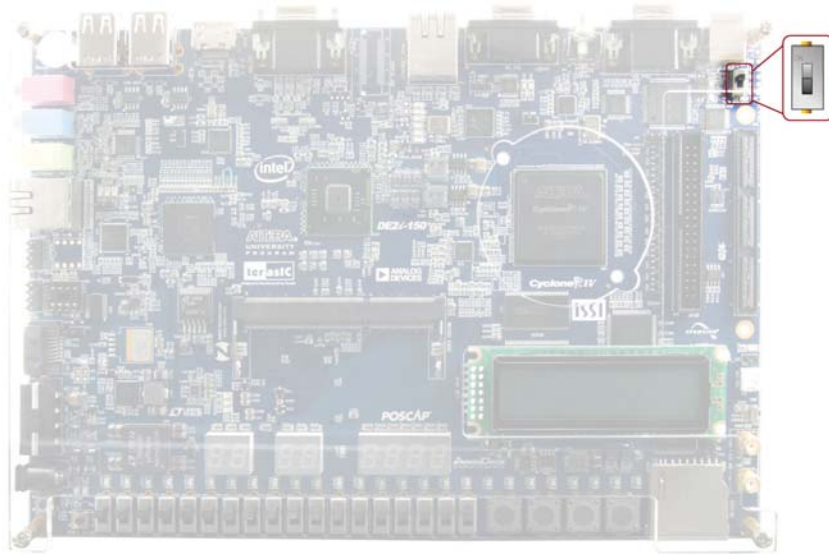

Figure 3-5 The RUN/PROG switch (SW19) is set in JTAG mode
- Configure the JTAG programming circuit by setting the RUN/PROG slide switch (SW19) to the RUN position (See **Figure 3-5**)